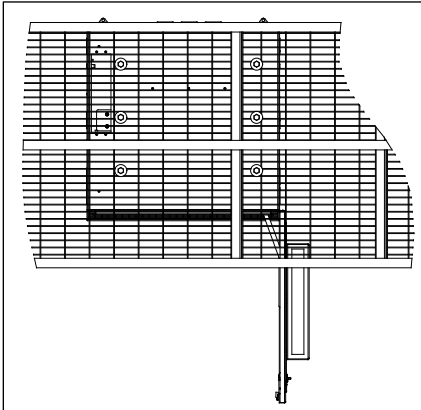

Figure 6 Installing on a Platform
7. To secure the CUBE to a steel grate platform, install 1/2” corrosion-resistant Grade 5 steel hardware through the cabinet and platform grate. Ensure that the bolts are long enough to extend past the nut on the bottom side of the platform grate. For all mounting applications, each bolted joint should have a minimum Ø1 inch fender washer on the inside of the cabinet (and underside of the platform grate for platform mounting) with a lock washer. The washer on the underside of the platform must be large enough to cover both adjacent bearing bars as shown in Figure 6.